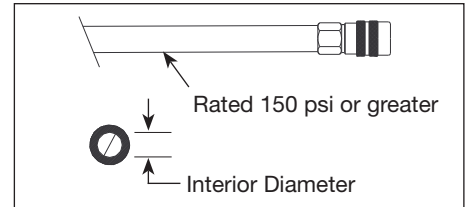

Figure 6 - Air Hose Requirements
**AIR SUPPLY HOSE:** ALWAYS use air supply hoses with a minimum working pressure rating equal to or greater than the pressure from the power source, or 150 psi, whichever is greater. Use 1/4 inch air hose for runs up to 50 feet. Use 3/8 inch air hoses for 50 ft. run or longer (see Figure 6 and Chart 2).